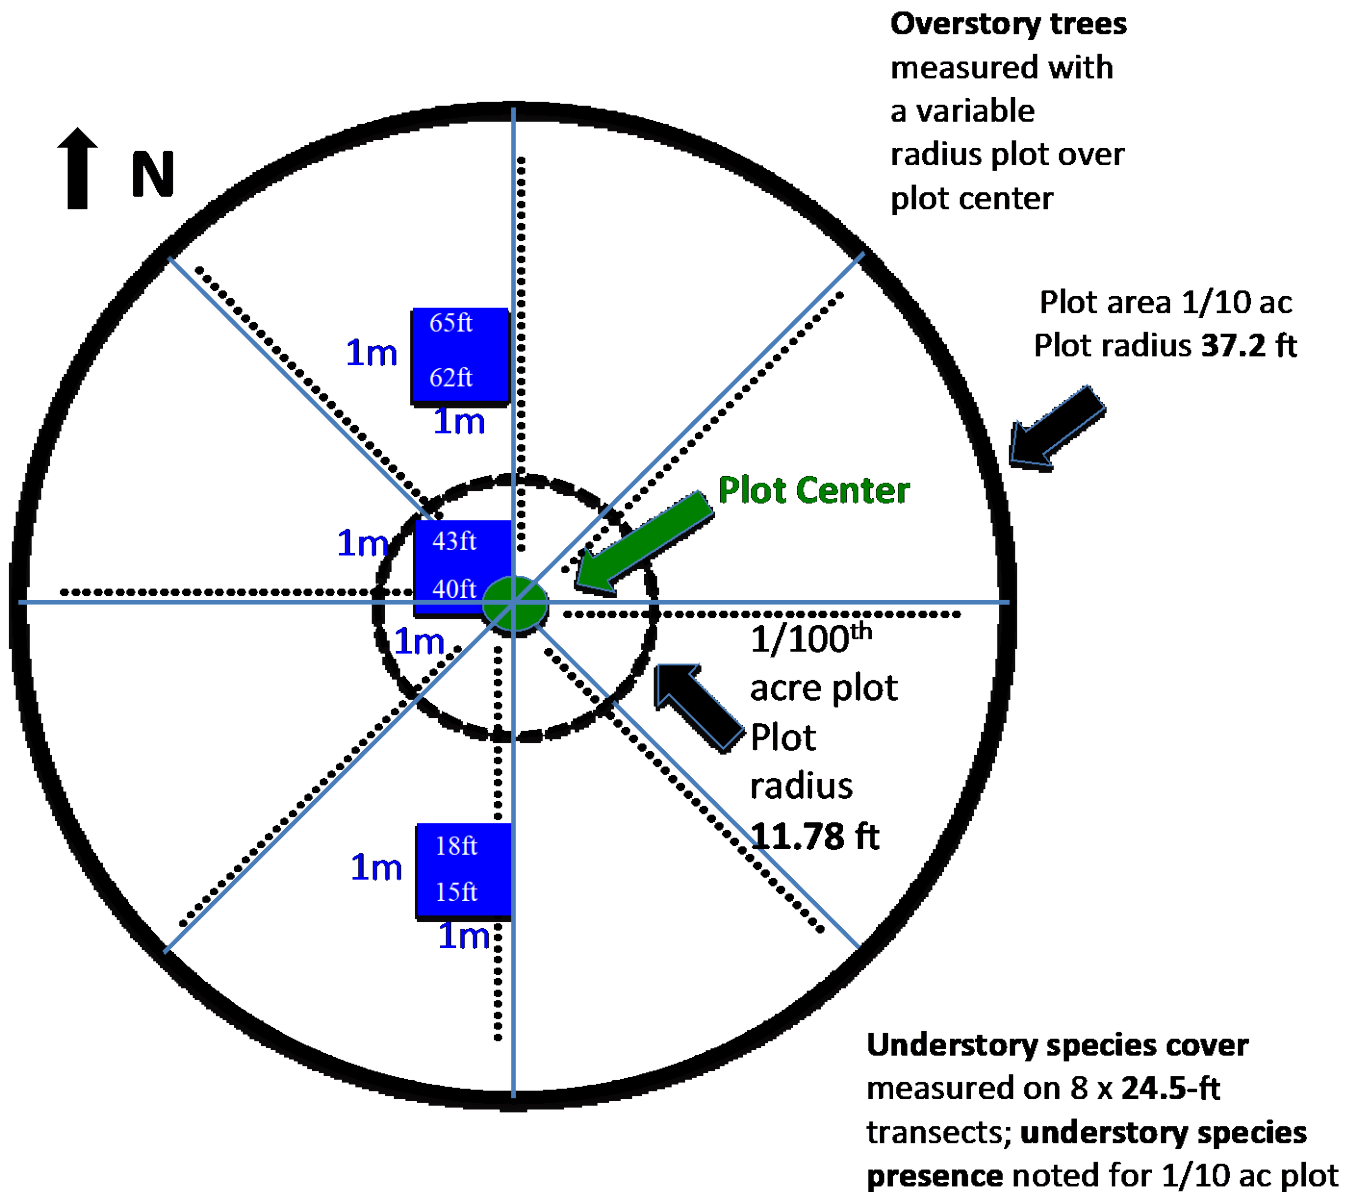

Figure 1. Diagram of the CFRI Forest Restoration and Fire Mitigation Effectiveness Assessment sample plot.
3. Each of the three 1m² Sample frames are placed to the left (west) of the north-south transect as depicted in Figure 1. The frames should be located adjacent to the 15 – 18 foot mark on the tape (25 feet south of the center), at the plot center (40 – 43 foot marks), and adjacent to the 62 – 65 foot marks (22 feet north of center, refer to Figure 1). To avoid trampling vegetation and woody fuels, walk on the right side of the transect as much as possible.